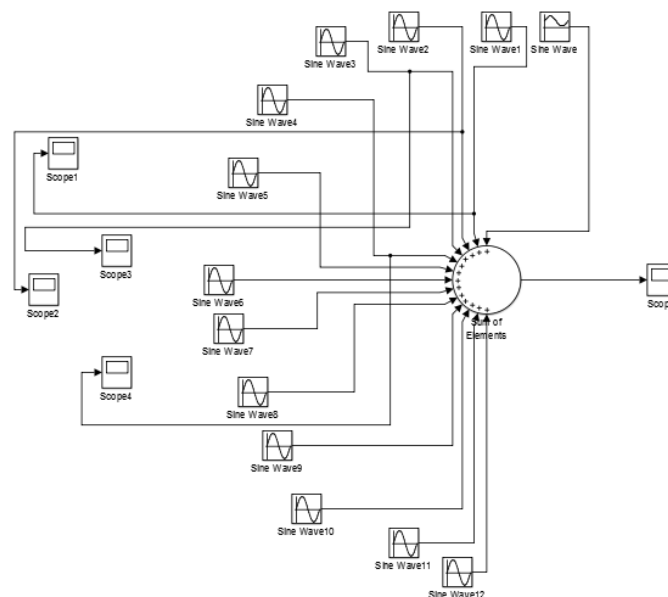

Figure 1.3: Simulink Model for Fourier Synthesis.
- 1) Fourier synthesis with SIMULINK. In MATLAB, go to the command window and type SIMULINK. This will bring up the Simulink library browser. Open a new model window and build the system shown in Fig. 1.3 to synthesize example periodic waveforms using sinusoidal signals. Follow the steps given below.